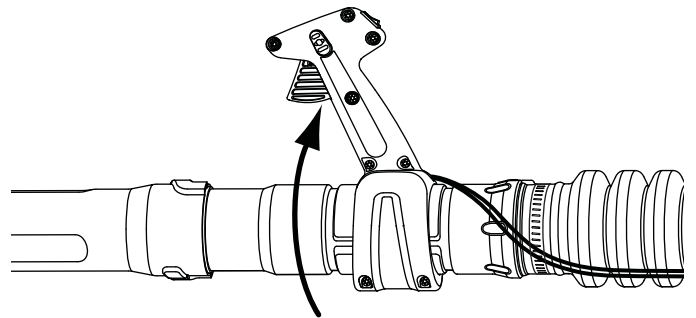

Fig. 8
3. Align the throttle grip with the slot closest to the comfortable place and rotate the throttle grip clockwise into the upright position (Fig. 8).